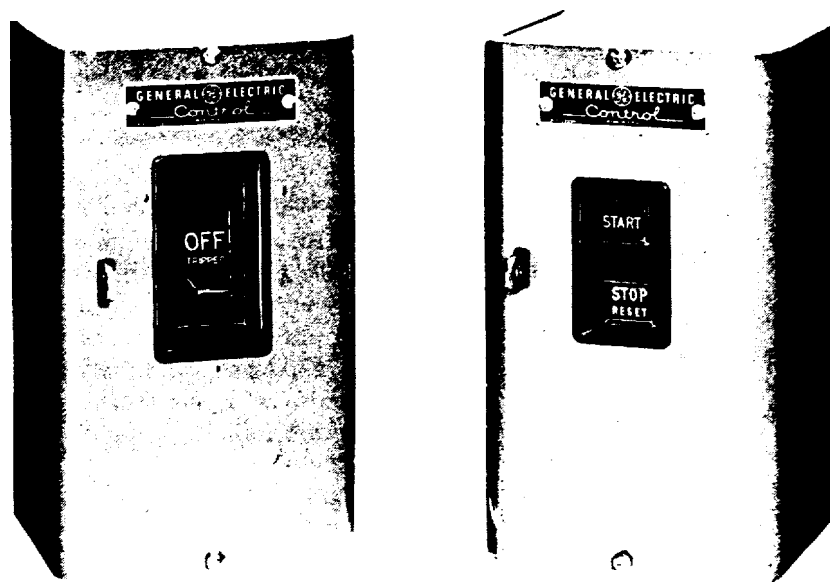

Figure 5-1. Manual starters
a. *Document across-the-line starters.* Document starters are most often used on small single phase fractional horsepower motors. They usually consist of a push button-type or a toggle-type mechanism (fig 5-1) that actuates a set of quick-make/quick-break contacts that connect the motor directly to the line. Document starters have provisions for overload protection and their low cost provides economical starter selection for applications where no undervoltage protection is required.